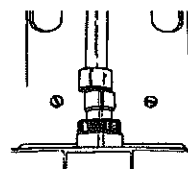
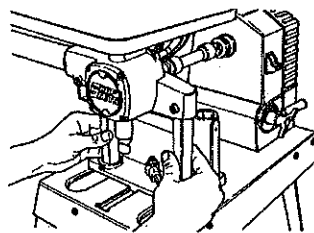

Fig.G-5
Fig.G-6
9. To align the Jigsaw horizontally, look to see how much you are out of horizontal alignment (as in Fig.G-5). Then twist the tubes to the left or right until the coupler is aligned with the drive shaft hub. See Fig.G-6.